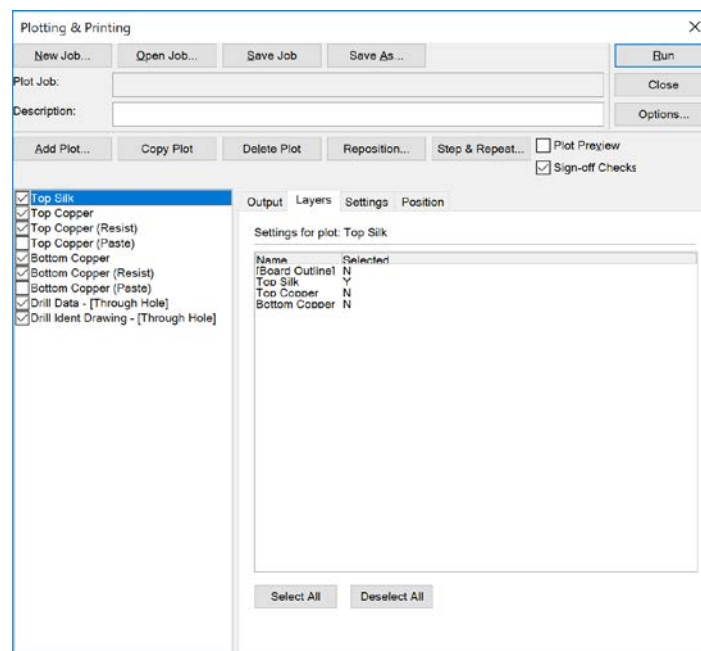

Figure 2 Layers Tab
3. Select the "Layers" tab. This shows which layers in the design will be used to make the output for the selected output layer (In the case shown in Figure 2, the Top Silk output layer will have information from the top silk layer in the design.)